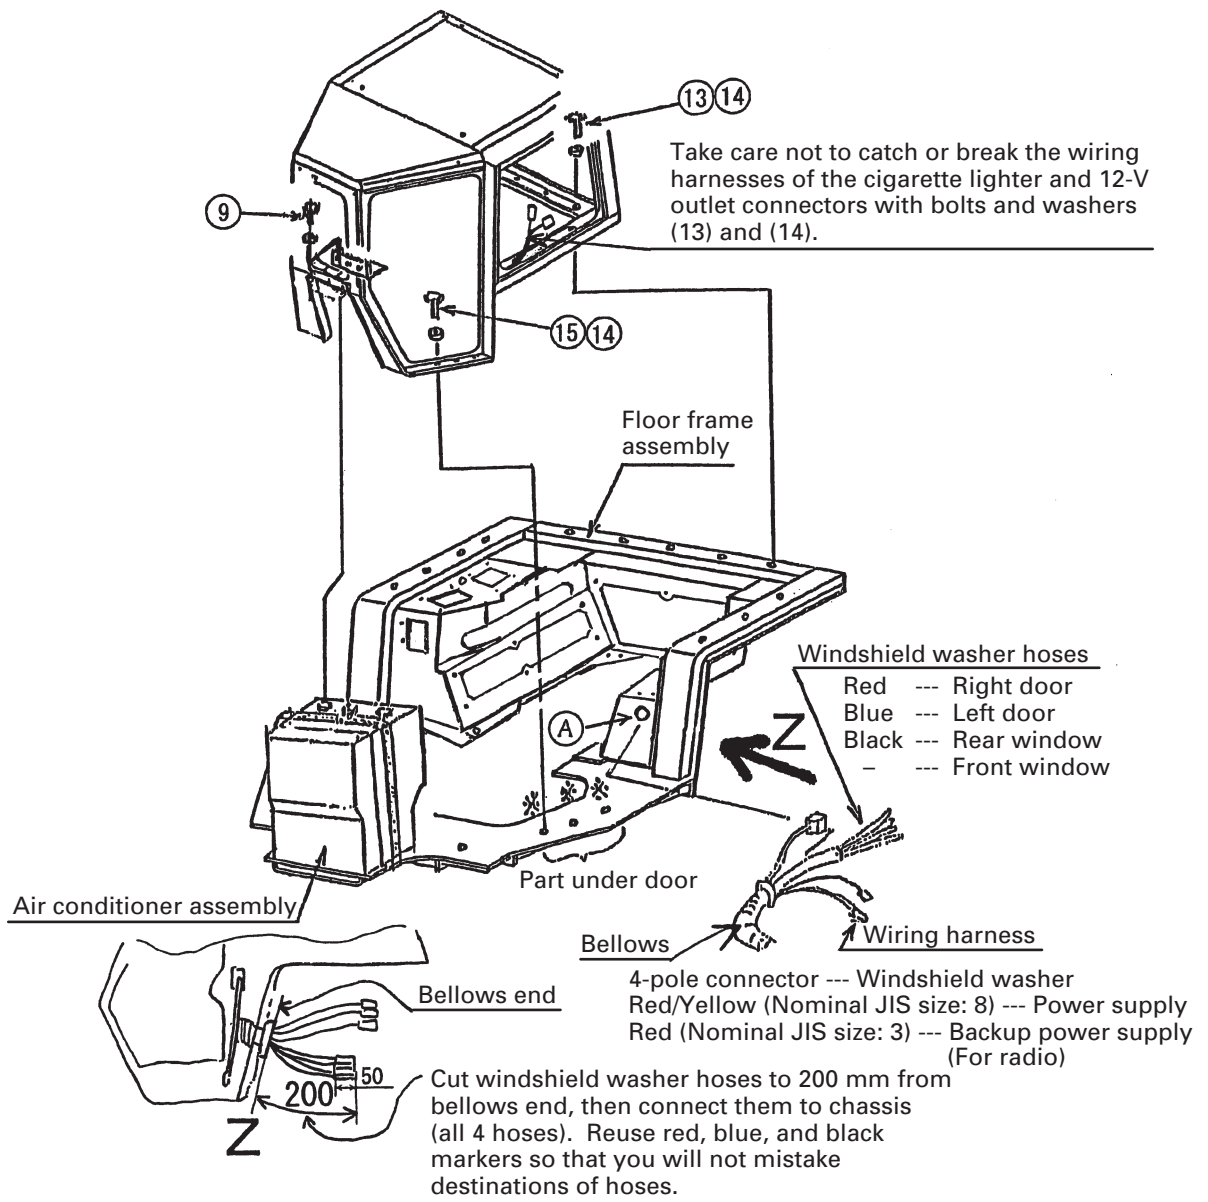

Fig. 11
(12) Referring to Fig. 11, bind the windshield washer hoses, windshield washer connector, and cab power supply wiring harnesses coming from the center bottom of the operator's cab with strings. Pass them through hole (A). Pull out the wiring harnesses on the chassis side and connect it.